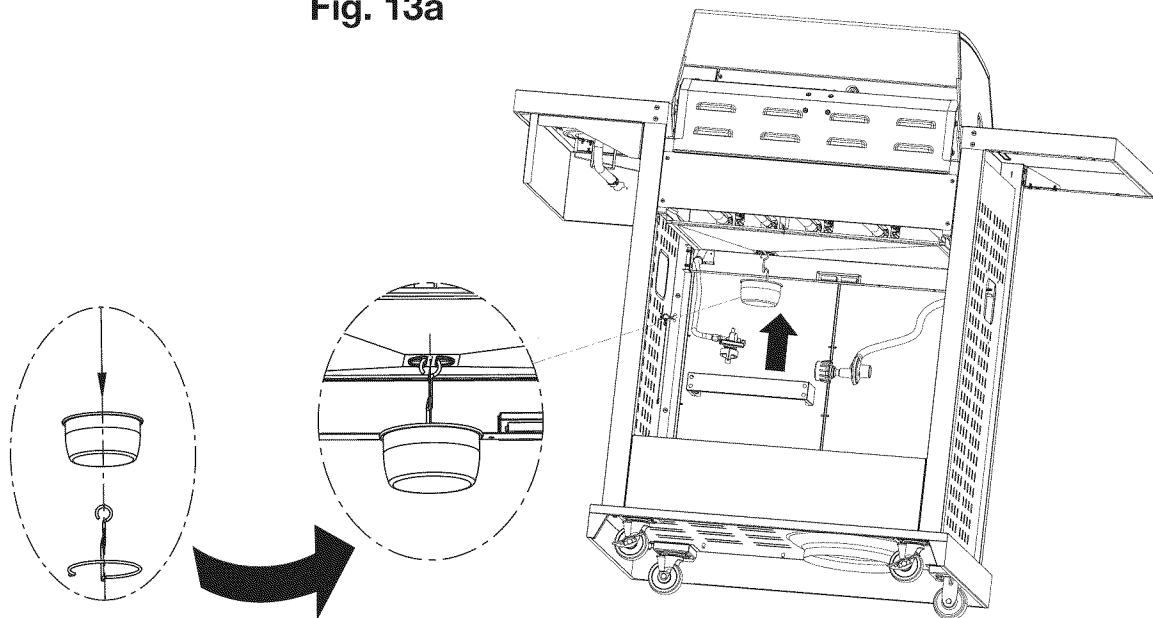

Fig. 13b
2. Place grease cup into grease cup clip and hang grease cup clip from bottom of firebox as shown in **Fig. 13b**.